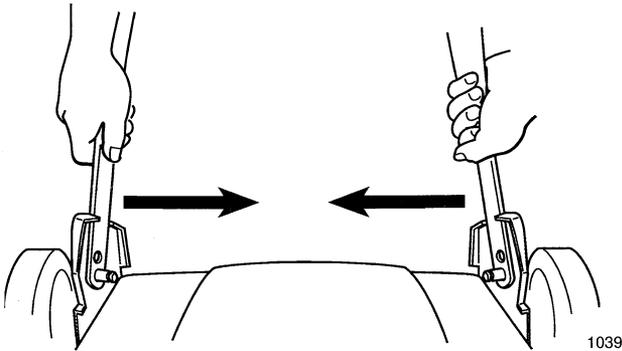

Figure 52
1. Squeeze bottom handle section together and slide past stops of handle brackets (Fig. 52).